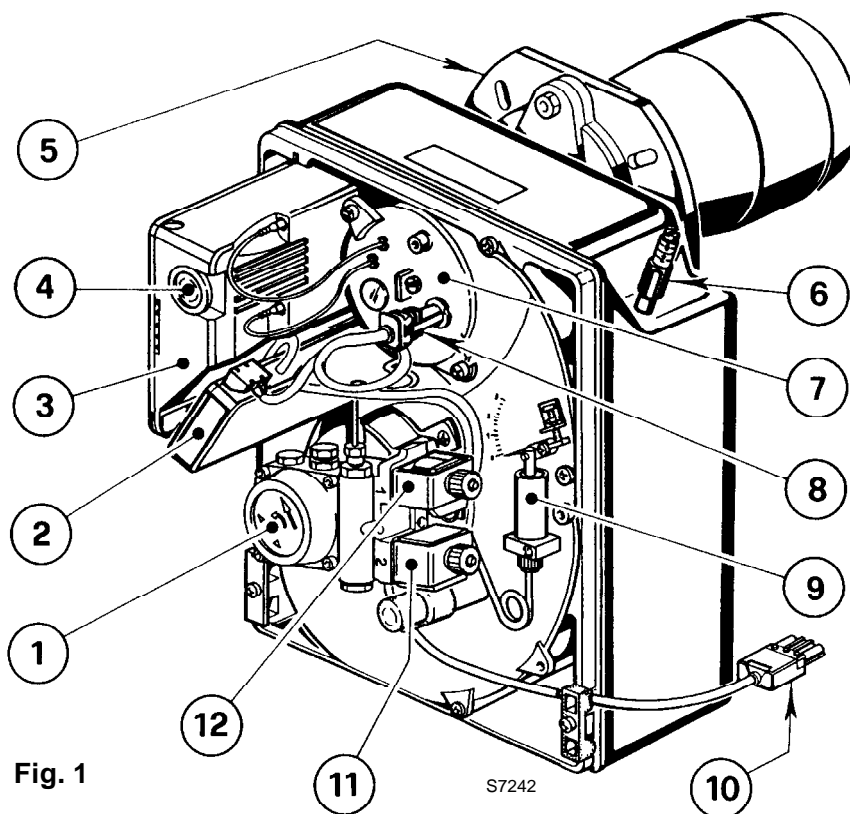

Fig. 1
B Lock out is indicated by a lamp on the control box (4, fig. 1, page 1).
- Clean the photoresistance, (8, fig. 1, page 1).
A fault usually makes the lock-out lamp light which is situated inside the reset button of the control box (4, fig. 1, page 1).